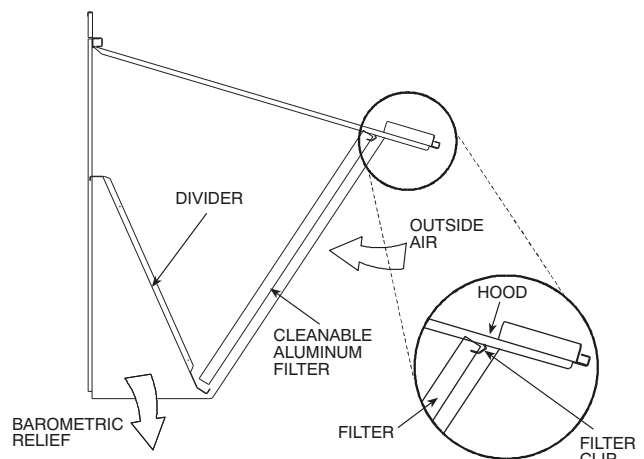

Fig. 15 — Economizer Filter Installation
- Open the filter clips which are located underneath the hood top. Insert the aluminum filters into the bottom filter rack (hood divider). Push the filter into position past the open filter clips. Close the filter clips to lock the filters into place. See Fig. 15.